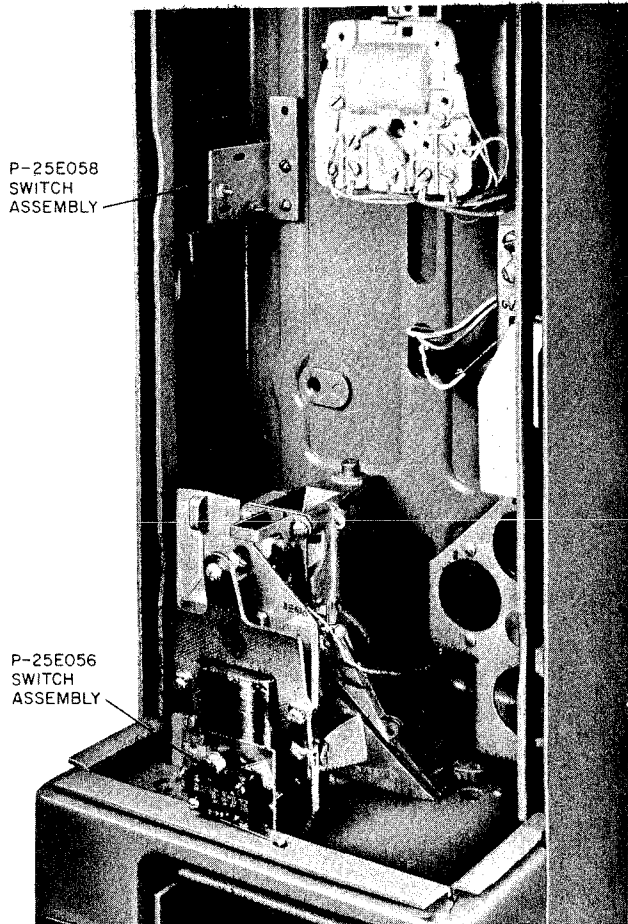

Fig. 7—1A Switch Kit Installed on 1A1 Coin Telephone Set
2.18 Install the switch kit in accordance with Fig. 7 using four No. 6-32 by 1/4 RHM screws.